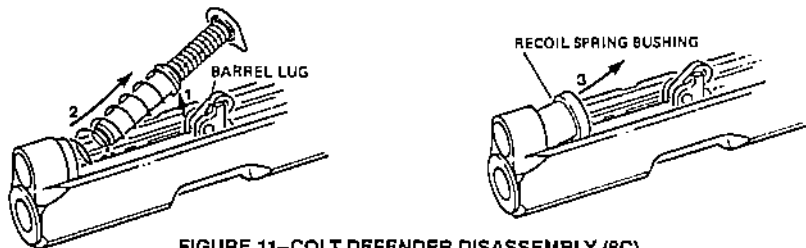

FIGURE 11—COLT DEFENDER DISASSEMBLY (8C)
8. (C) Compress and remove recoil spring assembly, then separate outer spring from it. Lift out recoil spring bushing; See Figure 11.
9. (A) Turn barrel bushing counterclockwise, push barrel and barrel bushing forward until bushing is clear of slide, then remove bushing from barrel.